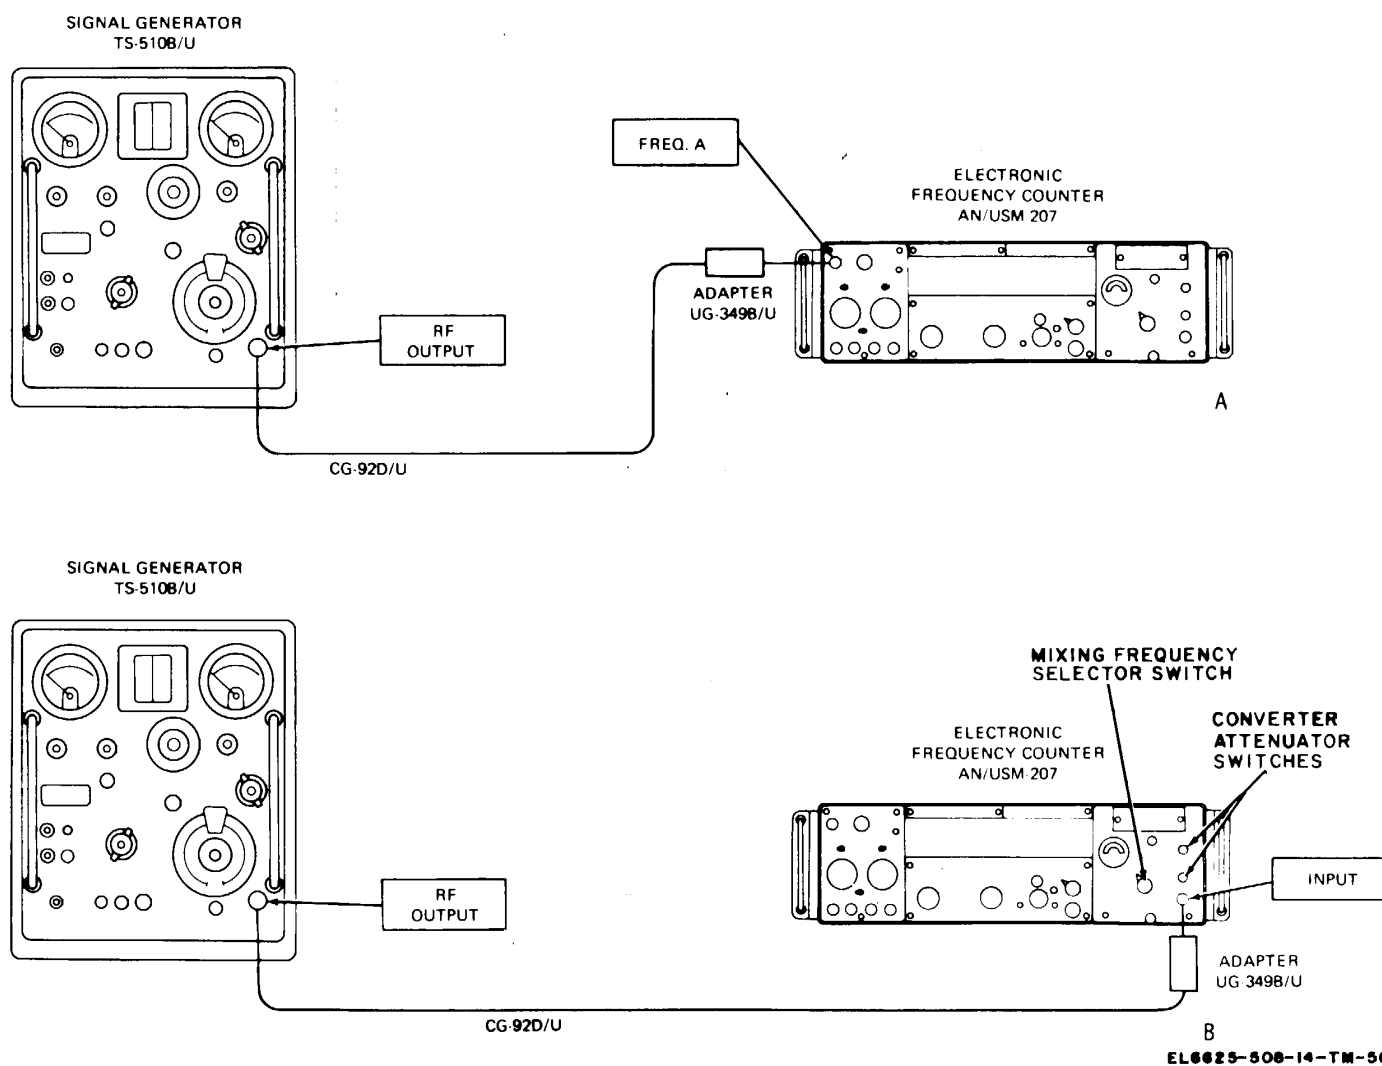

Figure 6-27. Frequency dial calibration and rf oscillator drift test connections.
(1) Electronic Frequency Counter AN/USM-207
(2) Coaxial Cable CG-92DIU
(3) Adapter UG-349/BU
b. *Test Connections and Conditions.* Connect the equipment as shown in A, figure 6-27.